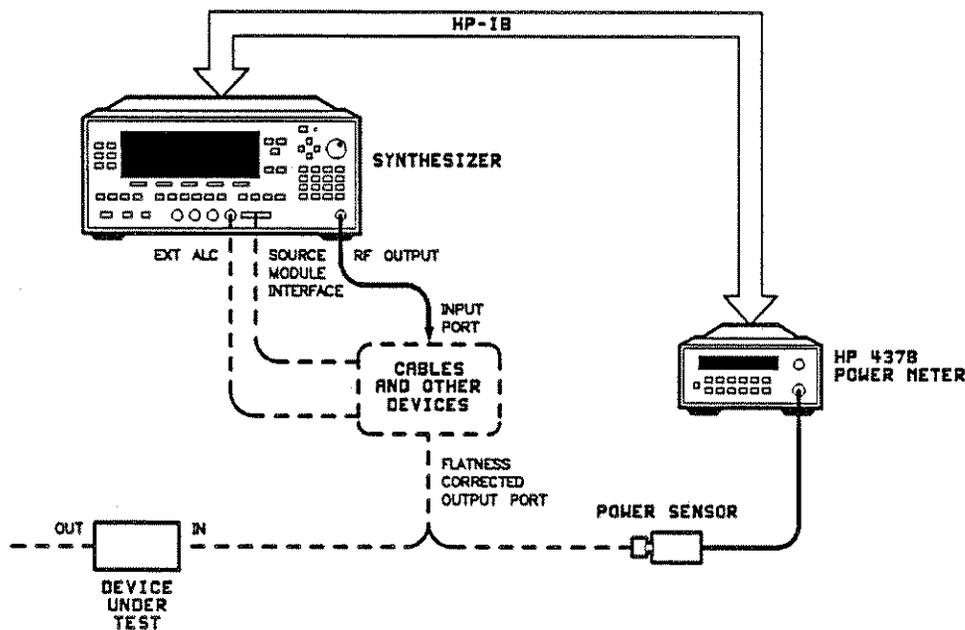
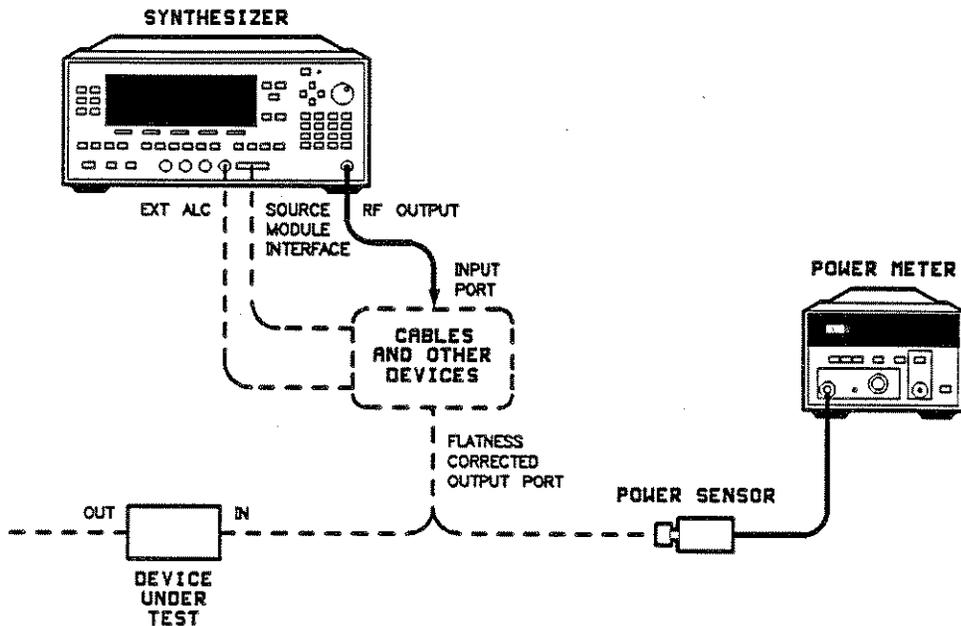

Figure 1-18. Creating a User Flatness Array Automatically
Figure 1-19. Creating a User Flatness Array
There are two basic front-panel methods of creating a flatness correction array. The first and quickest method is to use an HP 437B power meter. Refer to Figure 1-18 for the setup. The second method is just as accurate, but requires a little more interaction between the operator and the instruments. Figure 1-19 shows the setup for the second method.
1. The equipment setup shown in Figure 1-18 assumes that if the setup has an external leveling configuration, the steps necessary to correctly level have been followed. If you have questions about external leveling refer to earlier paragraphs titled, "Externally Leveling the Synthesizer."
1. The equipment setup shown in Figure 1-19 assumes that if your setup has an external leveling configuration, the steps necessary to correctly level have been followed. If you have questions about external leveling refer to earlier paragraphs titled, "Externally Leveling the Synthesizer."